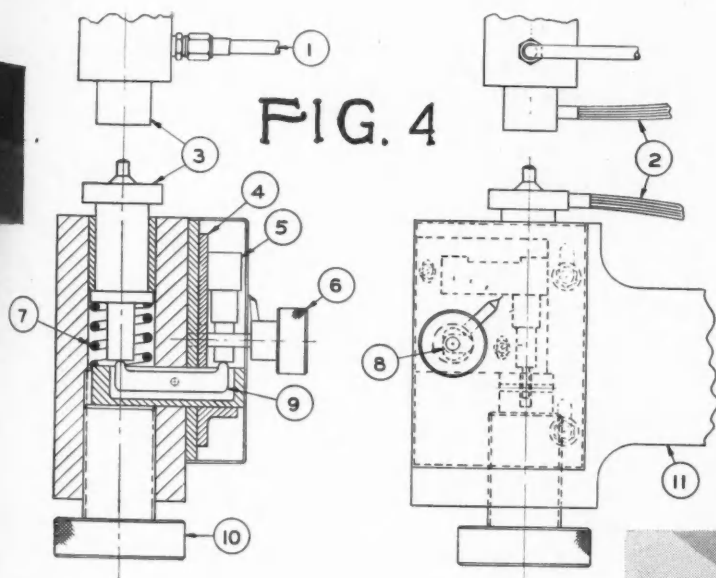

Fig. 4—Spring loading mechanism for initiating the current flow through the transformer.
amp. The open circuit voltage of the primary transformer ranges up to six volts. This large amount of current is carried to the electrode holders through heavy bus bars. The electrodes are made of Mallory No. 100 and are water cooled by means of $\frac{3}{8}$ in. holes drilled through the sides of the electrodes. The dimple punch and die which are seated in the electrodes are made of hardened tool steel and have a dimple geometry which gives a sharp, well-defined dimple. The electrode holder is raised $\frac{3}{8}$ in. above the bottom ledge by means of a steel coil spring (7). (See Fig. 4).
To illustrate the operation, assume that the timer is set at 0.1 sec and the transformer at 1-1. The machine operating switch is closed. Air pressure is developed which brings the ram and the top electrode down, forcing the die into close contact with the drilled sheet resting on the male punch. The die and punch in joint contact with the metal sheet travel down until the lower electrode reaches the bottom ledge. During this travel the rocker arm (9), Fig. 4, trips the micro switch which causes the timer to initiate the current flow to the transformer. The current flows 0.1 sec before the circuit is opened. The metal is heated before the